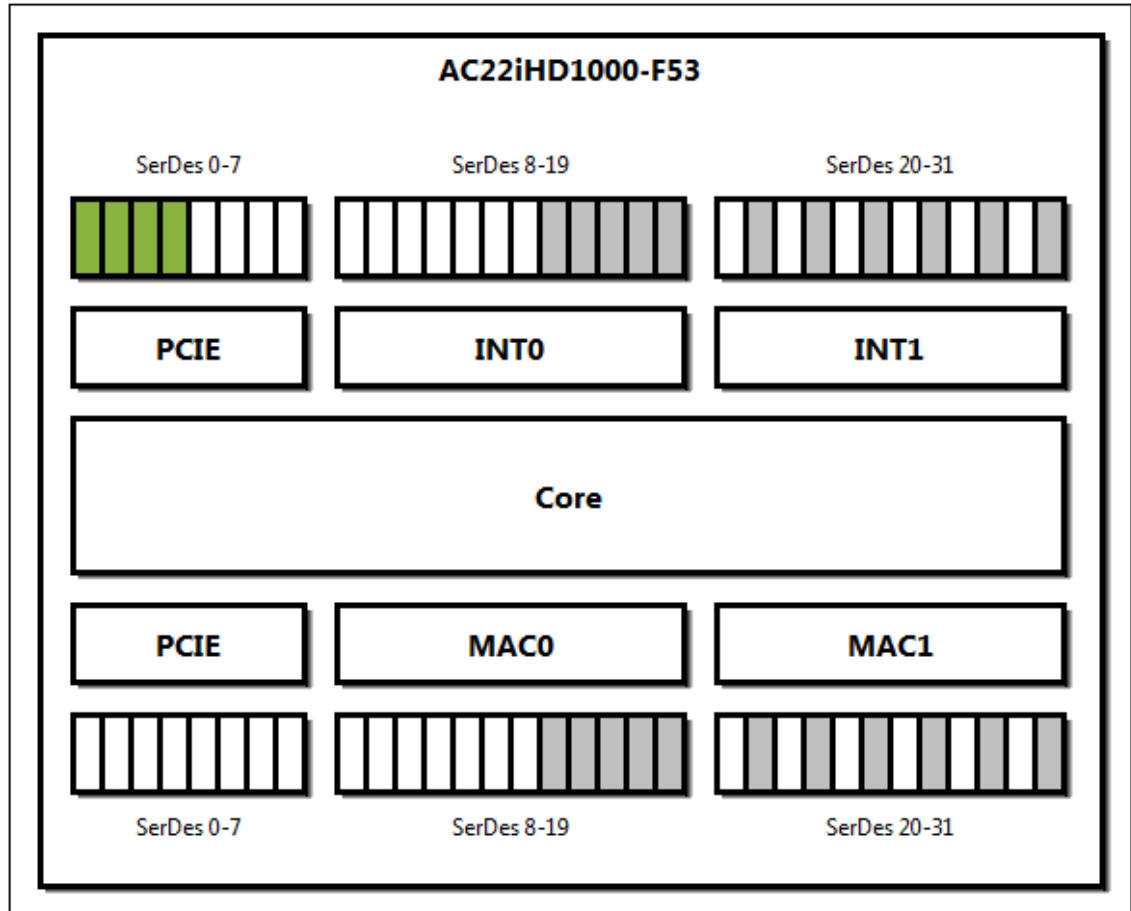

Figure 40: SerDes Placement Guidelines
- On both the North and South sides of the chip, there are additional restrictions on lanes 20-31 if you instantiate multiple non-bonded serdes lanes. You cannot place the non-bonded SerDes lanes adjacent to each other. Due to clock muxing limitations, you must place each non-bonded lane on every other (even numbered) lane. Figure 40: SerDes Placement Guidelines below shows available lanes in white, and illegal/unavailable lanes in gray for a multi-lane non-bonded interface. Note that if you use channel bonding, you may place your multi-lane bonded interface on any of the lanes 20-31.